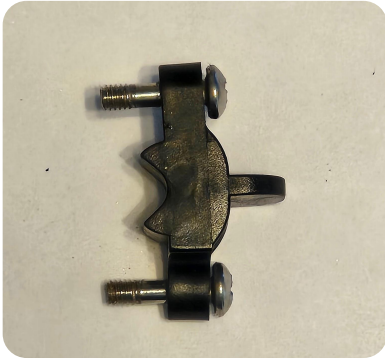

Fig. 5a
- Use the round cable jacket retention bracket shown in Fig. 5a